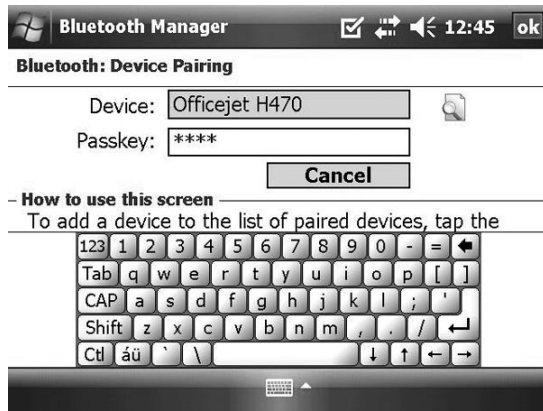

Figure 14-12. Enter “0000” in the “Passkey” field. Press “ok.”
5. Enter “0000” in the “Passkey” field and press “ok.” See Figure 14-12.